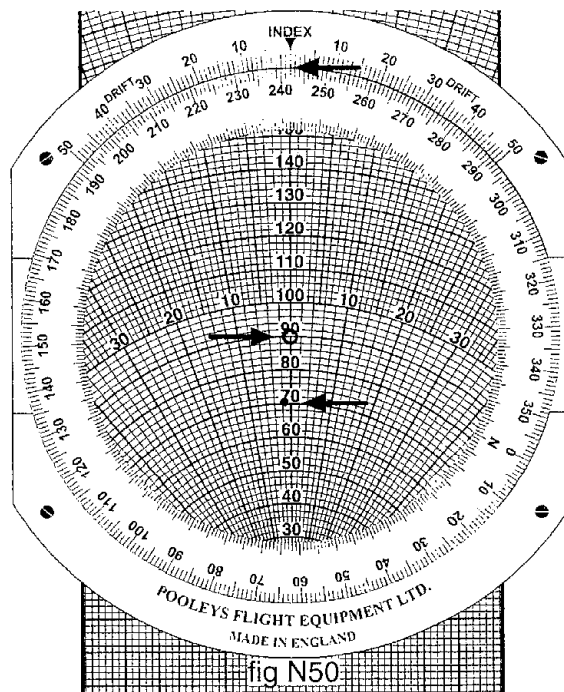

fig N50
**Note:** The soft pencil mark has moved only a small amount which requires no further adjustment (fig N50).
Read off the **true heading 242** under the index mark at the top of the fixed outer scale (fig N50).
There is no measurable drift (fig N50).
Read off the **ground speed**: the speed arc under the soft pencil mark = **70kt** (fig N50).
Ground speed TATENHILL to COSFORD = 70kt. See fig N50.